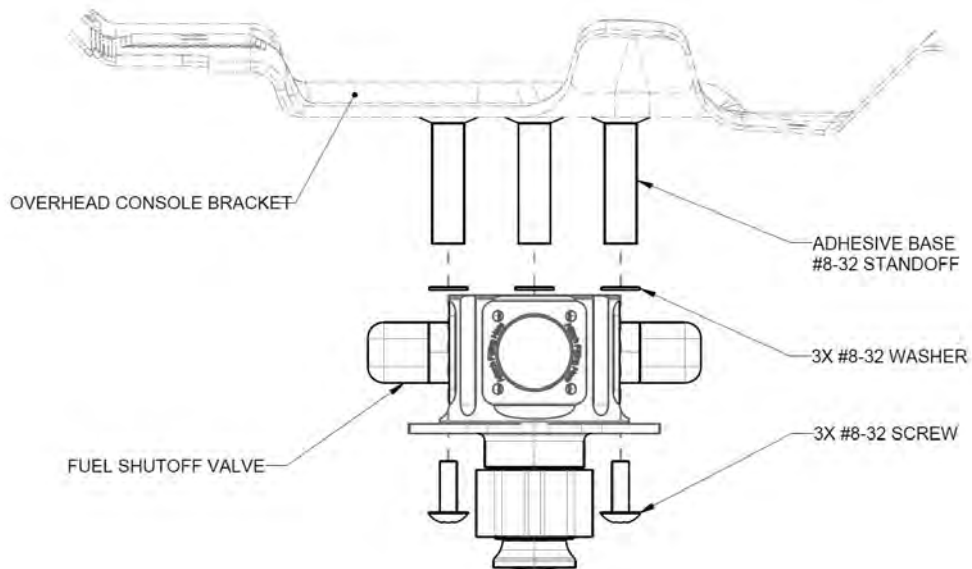

FIGURE 10-27
6. Remove the three #8-32 screws to remove the Fuel Shutoff Valve. Be careful not to lose the three washers that sit above the Fuel Shutoff Valve. (See Figure 10-27.)
1. Install the new Fuel Shutoff Valve with applicable hardware. (See Figure 10-27.) Apply THREAD-LOCKER and torque screws to 13 in-lbs.